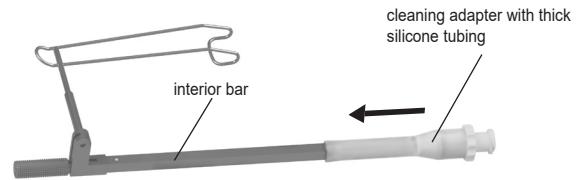
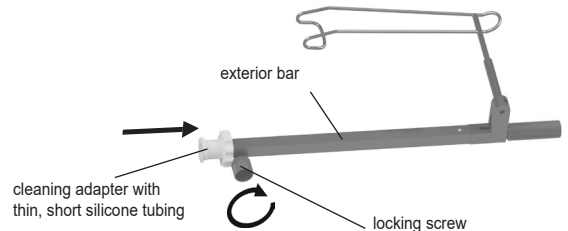

Fig. 4
Fig. 5
- Assemble the cleaning adapter(G-36610) according to fig. 4 and fig. 5:
- Slip the cleaning adapter with the thick silicone tubing over the interior bar (fig. 4).
- Insert the cleaning adapter with the thin, short silicone tubing into the exterior bar all the way to the stop. Fasten it by tightening the locking screw cautiously (fig. 5).
- After cleaning and disinfection remove the cleaning adapter in reverse order (see fig. 4 and fig. 5).